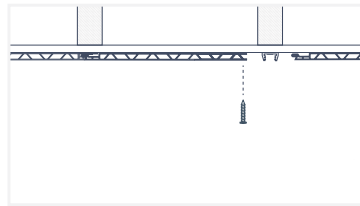

Fig. 36
8. Insert the replacement panel onto the wall, screwing directly into the cut edge of the panel (Fig. 36).